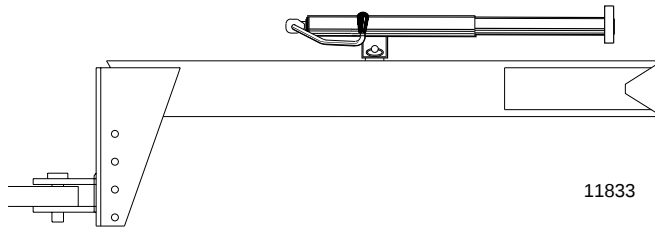

Figure 1-4
5. Store jack on top of tongue as shown in Figure 1-4.